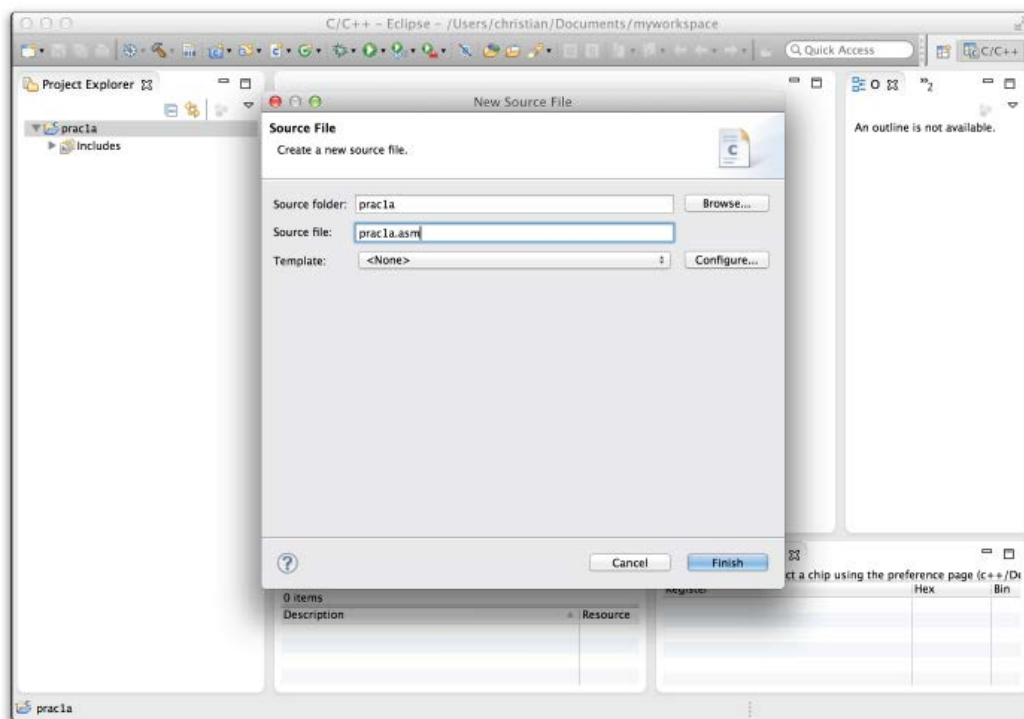

Figure 1.9 Creating a new source file
6. Now let's add a file with the source code of our first assembly program. To do this, select File→ New→ Source File, to open a window like the one in Figure 1.9. In order to tell Eclipse that the file contains assembly code, the file name must include the extension “.asm” or “.S”. Once created, we must double click on the file in the left panel. This will open a new editor tab, into which we must copy the code from Table 1.12.